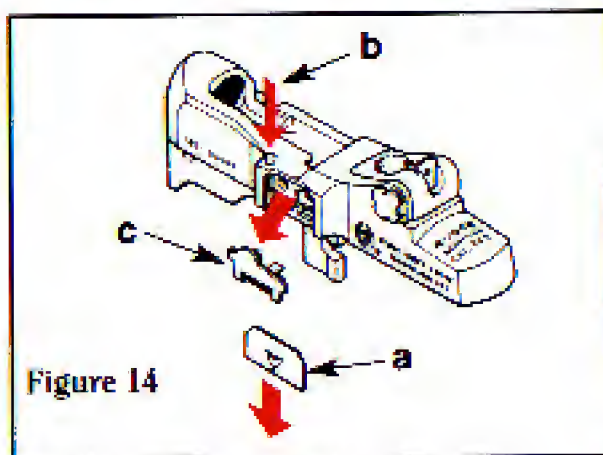

Figure 14
9. The bolt lock cover plate can be removed by tapping downward (with a soft metal punch) at point "a" (See Fig. 14). With cover plate removed, depress bolt lock plunger "b", which will allow the bolt stop "c" to be lifted out.